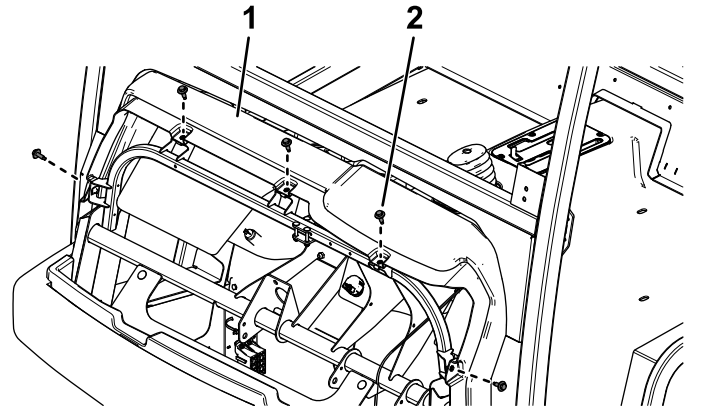

Figure 39
1. Remove the 5 hex-washer head bolts from the dash (Figure 39).